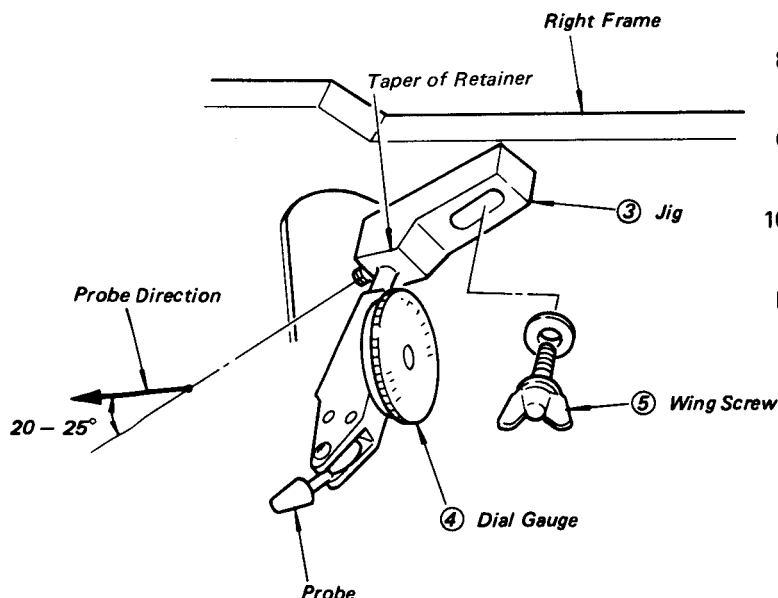

Fig. 5-105 Adjusting the Eccentricity Gauge
2. Remove the two screws (2) holding the cassette opener, and move the cassette opener to the cylinder assembly side.
3. Reassemble the retainer of eccentricity gauge (3) as the taper of retainer should be come inside and the scale (4) is in the vertical position. (see Fig. 5-105)
4. Fix the eccentricity gauge (3) with the wing screw (5) on the right frame of chassis.
5. Position the probe of eccentricity gauge (3) should be come the top of video head disk assembly.
NOTE: The gauge of the probe and the retainer of eccentricity gauge should be kept about 25 degrees. (see Fig. 5-105)